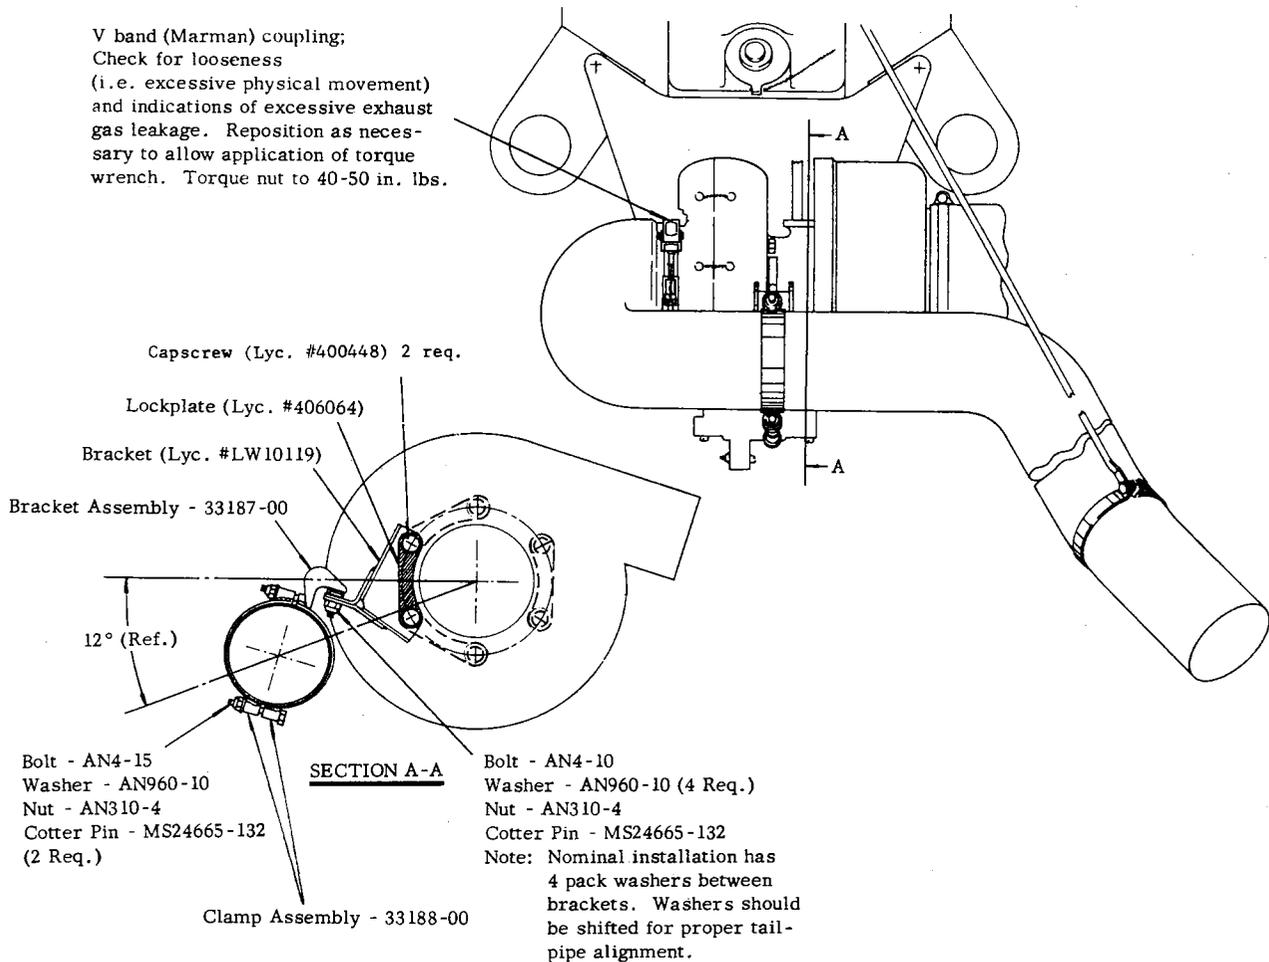

Figure 3. Assembly Procedure for Tailpipe Bracket and Clamp Components
1. Remove inboard and outboard engine cowl panel assemblies and grasp the tailpipe assembly to determine if movement is discernible between the tailpipe and the turbine outlet at the v-band coupling (Maraman clamp). See figure 3. If movement is evident remove the bottom cowl assembly and remove the v-band coupling; reinstall it and tighten the coupling nut to 40-50 in. lbs. torque.
5. See figure 3 for installation of tailpipe bracket and clamp assembly.